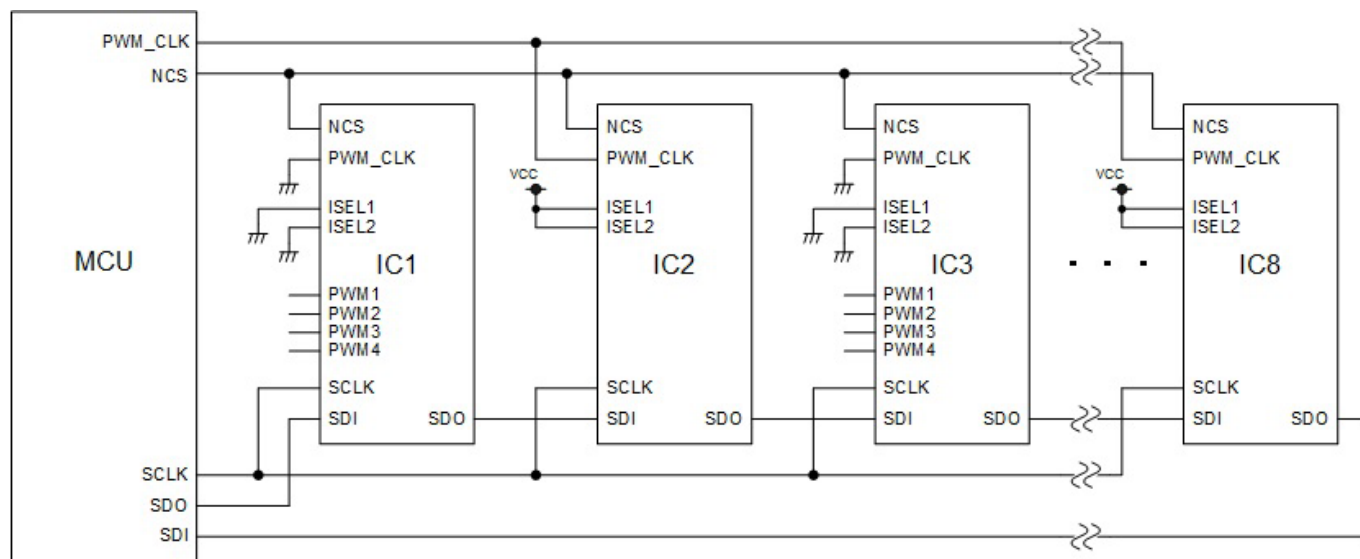

Figure 7.34 Example daisy-chain connection containing both PWM input motor drive and SPI motor drive ICs
- A daisy-chain connection containing both motor operation controls, PWM1/2 and SPI (Figure 7.34).